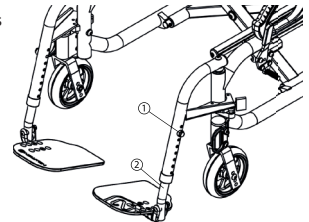

Fig. 24.1
- Remove screws on front riggings (1) (Fig. 24.1)
- Reinstall screws (1) at desired length.